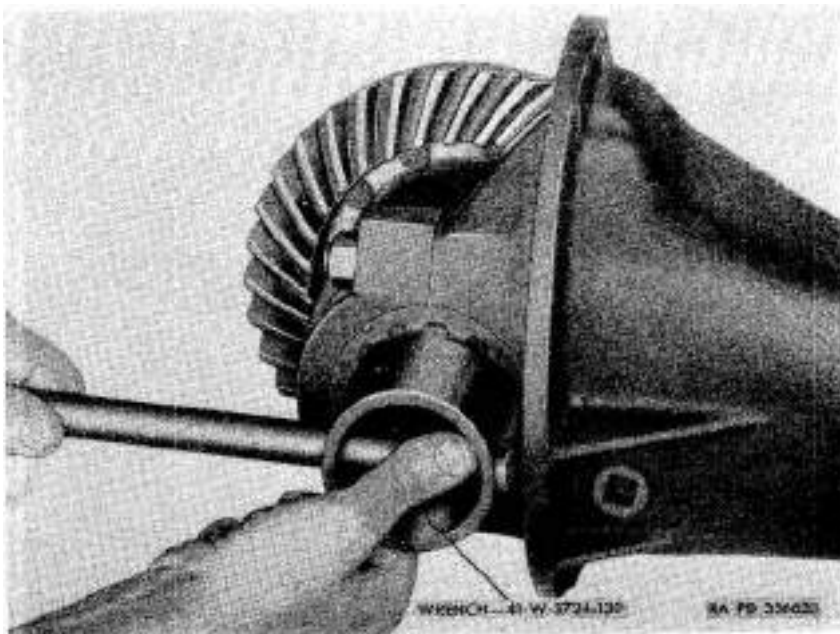

Figure 79. Turning differential bearing adjusting nut.
- (2) Remove $\frac{5}{8}$ -18NF nuts (AB) and $\frac{5}{8}$ -inch lock washers (AD) from the differential bearing cap studs (AJ) .
- (3) Remove 5/16-18NC x $\frac{5}{8}$ lock washer screws (T and ZZ) and differential bearing adjusting nut locks (S and AC) ; then loosen differential bearing adjusting nuts (N and AF) with wrench 41-W-3724-130 (*fig. 79*). Remove adjusting nuts and differential bearing caps (Q and AE) from drive pinion carrier assembly (K) .
- (4) Remove differential with drive gear assembly and differential bearing cups (EE and QQ) from drive pinion carrier.